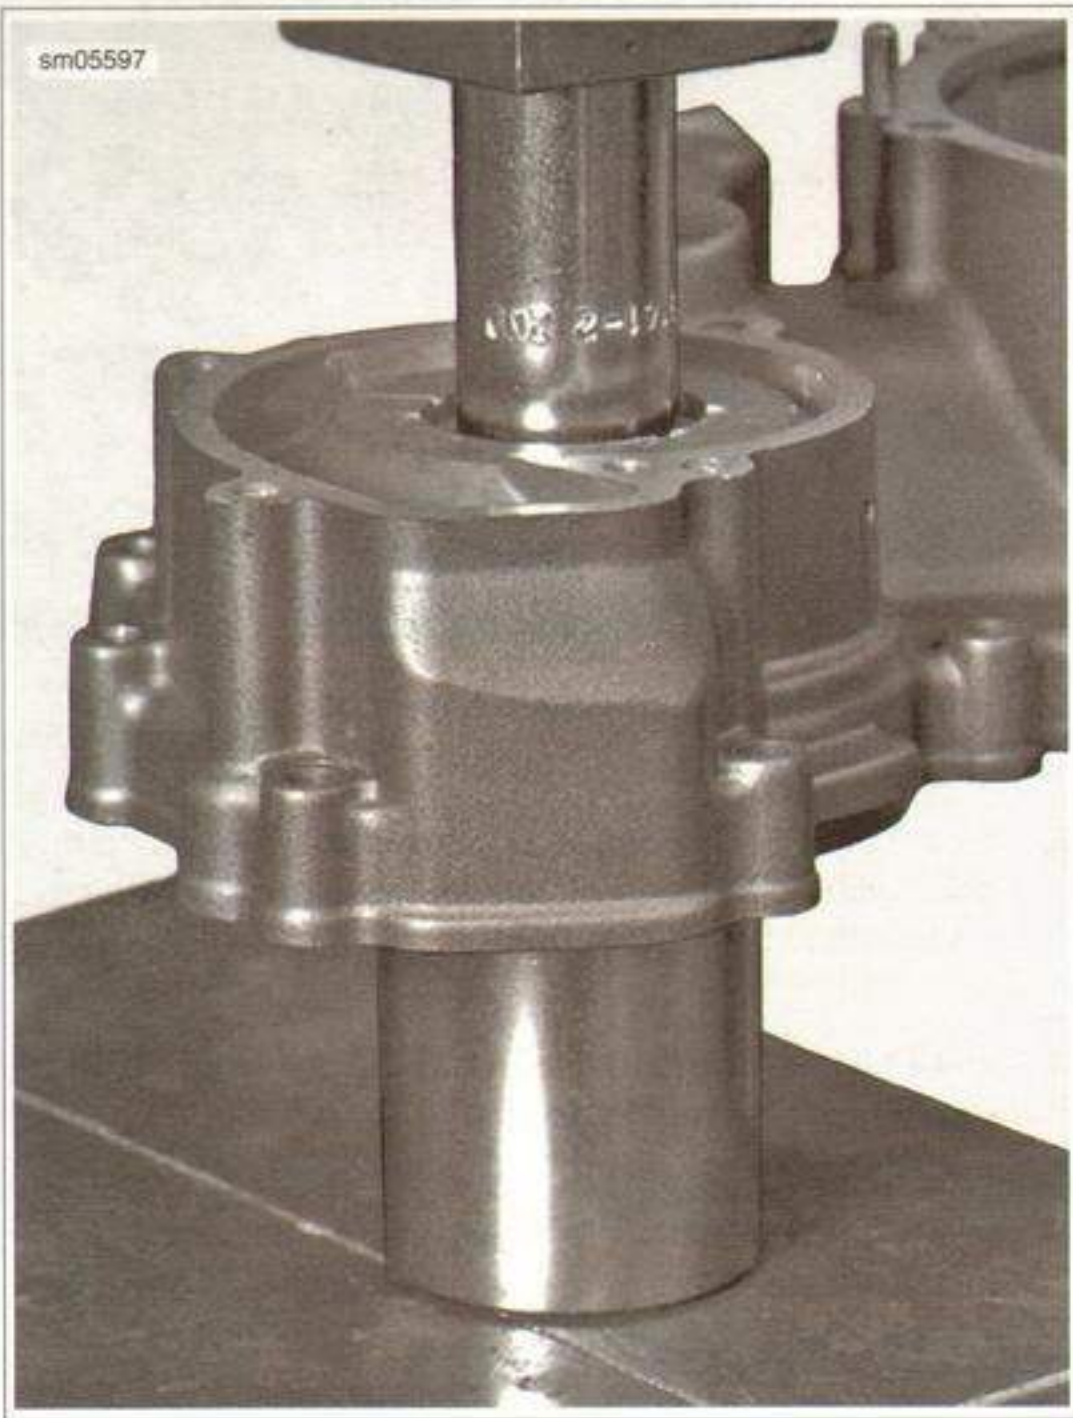

Figure 5-20. Installing Inner Oil Seal
8. See Figure 5-20. Using WATER PUMP OIL SEAL INSTALLER (Part No. B-49141-2) (shoulder side down), install seal until tool gently stops against side cover.